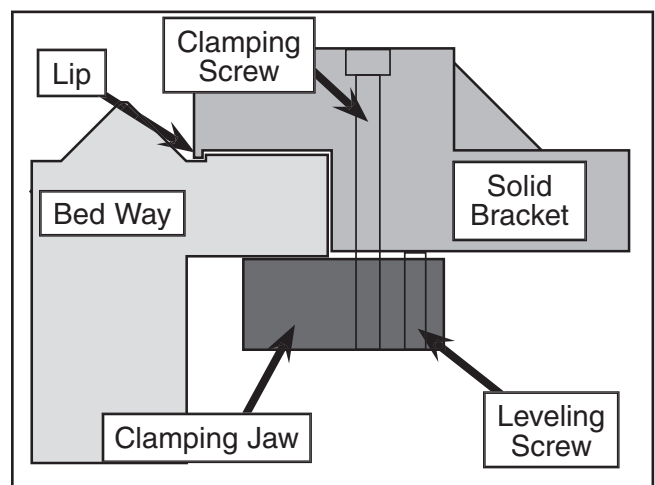

Figure 8. Components of the deadman.
19. Attach the deadman to the lathe bed (**Figure 8**). The deadman is composed of a solid cast bracket and a loose clamping jaw. The bracket has two holes for screws that attach the clamping jaw. It also has a lip that must extend beyond the flat surface of the bed way. The clamping jaw has two set screws that allow for adjustments. These set screws should be adjusted until the clamping surfaces of the clamping jaw and bottom of the bed way are parallel when the clamping screws are tight. If these surfaces are not parallel, loosen the clamping screws and adjust the set screws as needed.